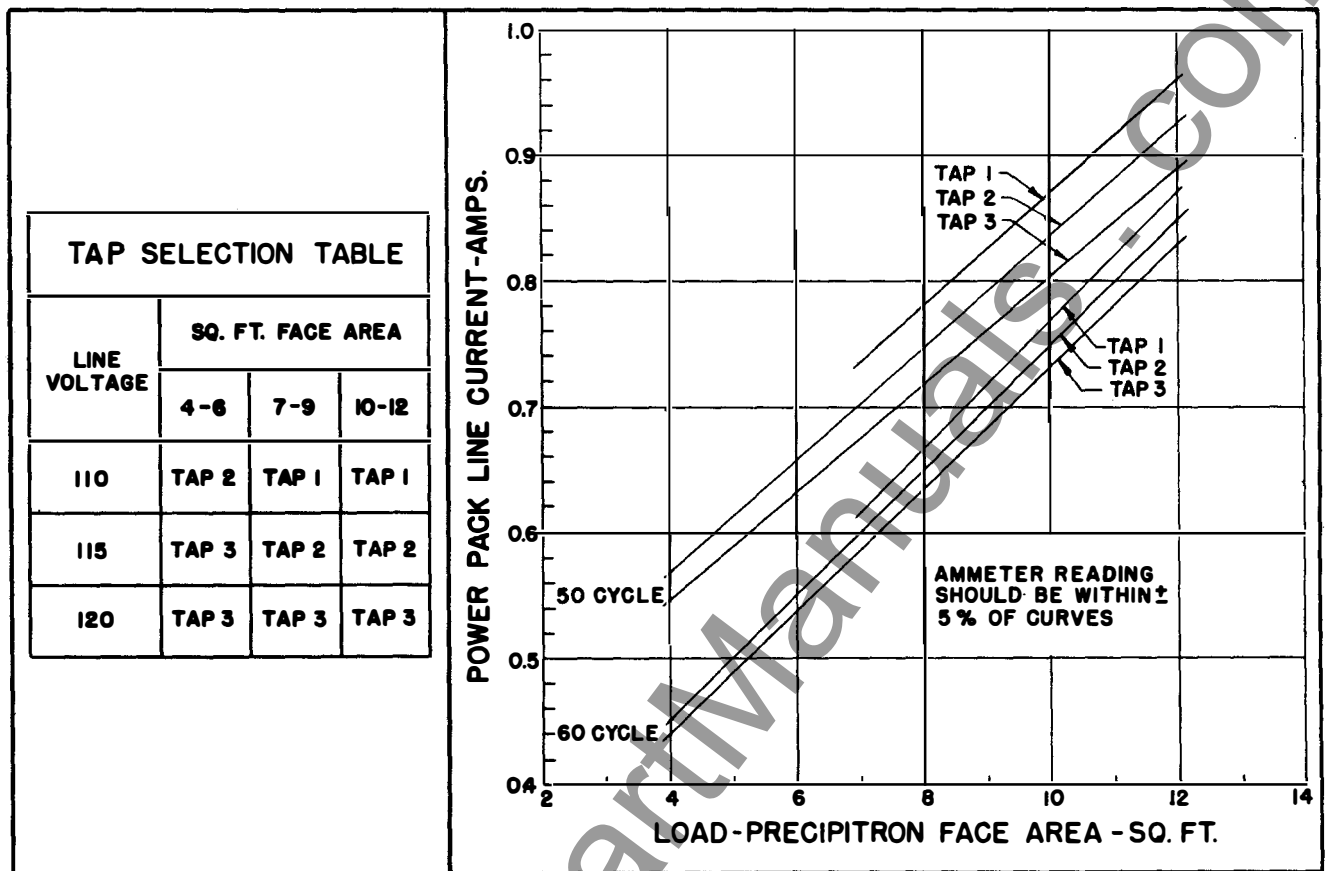

Fig. 4 Input Current vs. Precipitron Load and Transformer Tap Settings
2. Using Fig. 4 select proper transformer tap to compensate for line voltage and face area of PRECIPITRON being supplied by the power pack.
line voltage conditions, check ammeter reading and compare with Fig. 4. If line current is more than 5% higher or lower than curves indicate, check PRECIPITRON for faults, correct and repeat adjustment.